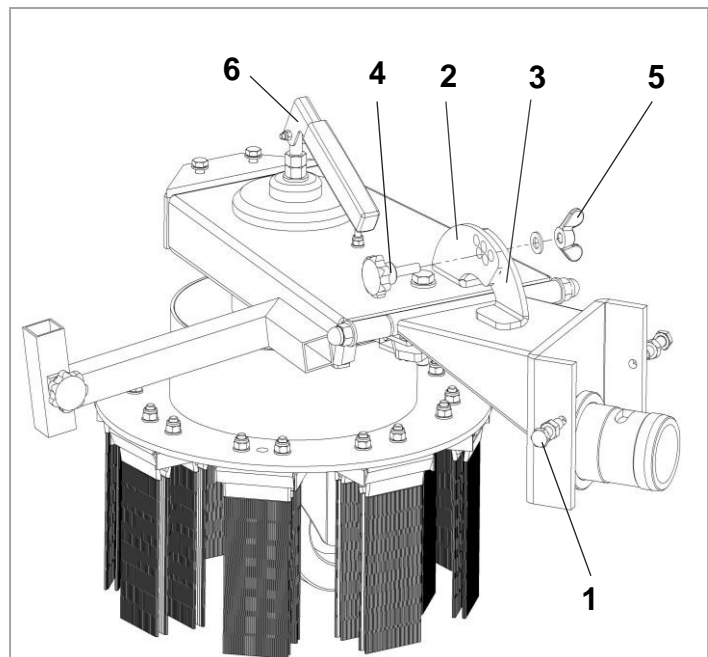

Fig. 5
**The horizontal** of the brush plate is adjusted by the two screws (Fig. 5, Item 1) on the right and left of the take - up of the drive machine. To do this, loosen the locknuts, adjust the inclination using the screws and then tighten the locknuts.
**The vertical two wheeled tractor** of the brush plate is changed by the stem housing (Fig.5; Pos.2) for receiving (Fig.5, Pos.3) can be adjusted at an angle over predefined holes. By means of a star grip (Fig.5, Pos.4) and a thumbscrew (Fig.5, Pos.5), the angle adjustment is locked.
**The height adjustment** of the brush plate is made by a support wheel, which can be changed via the lever (Fig.5, Pos.6). Changes in length of the brushes due to wear are hereby compensated